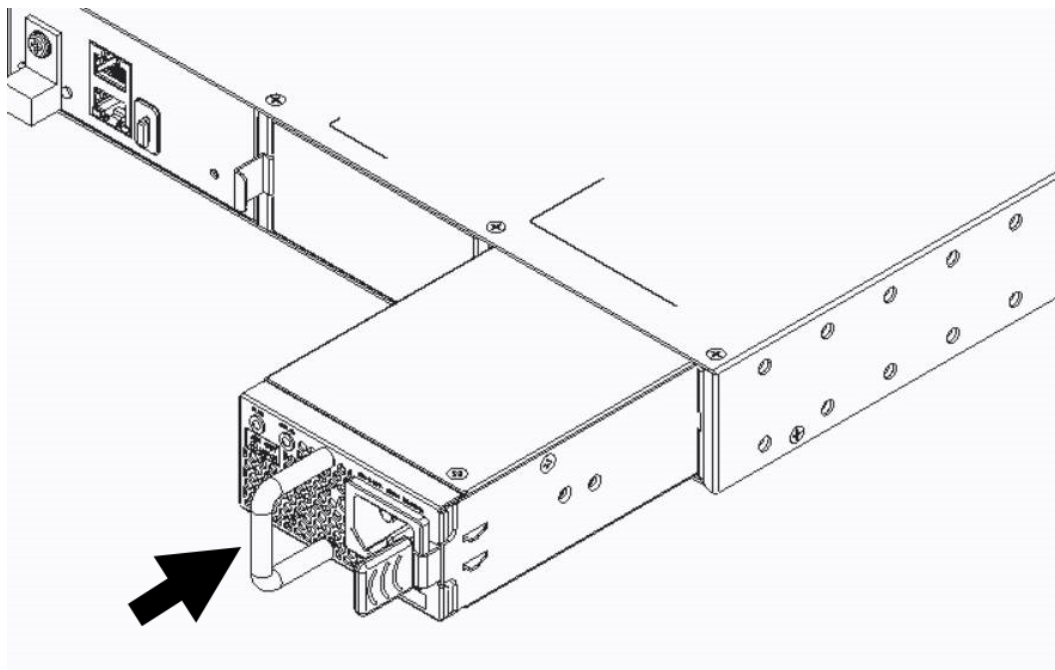

Figure 79: Installing A 550 W DC Power Supply
6. Carefully slide the power supply all the way into the power supply bay until the latch snaps into place, as shown in Figure 79.